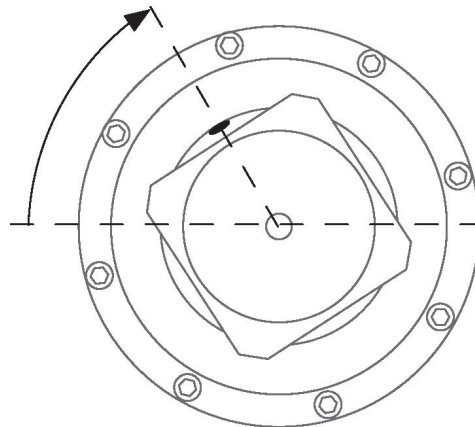

Figure 12
2. Rotate the unit until the oil fill hole is sitting between 60° and 70° from horizontal. See Figure 12.